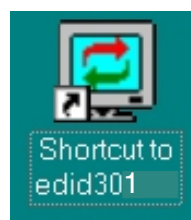

Fig. 8
- : Double click EDID301 icon (as shown in Fig. 8) which is on the screen of Windows Wallpaper. Bring up main menu of EDID301 as shown in Fig. 9.